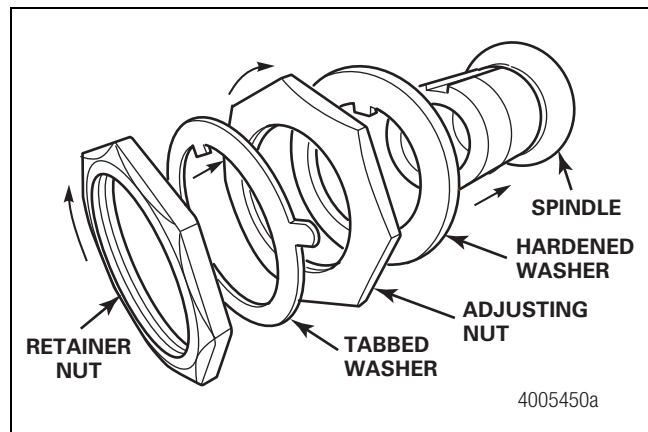

Figure 13.35
1. Install the hardened washer against the outer bearing. Figure 13.35.